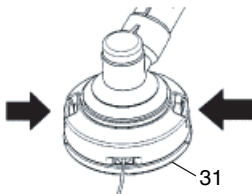

Fig. 37
(1) Remove the case (31) by firmly pushing inward the locking tabs with your thumbs as shown in Fig. 37.